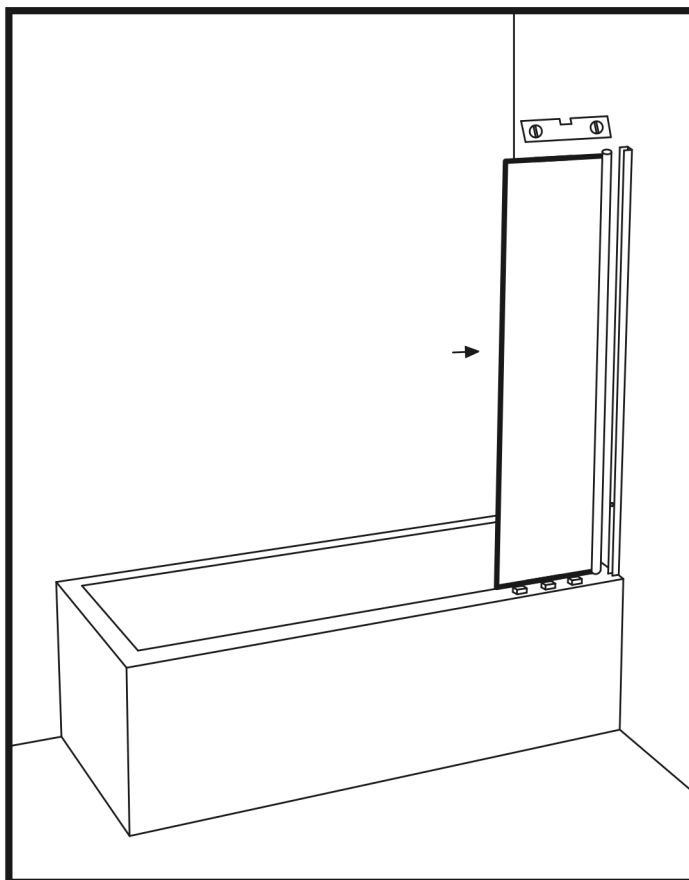

Figure 4
8. Place wooden blocks (max. thickness 10 mm) on the edge of the bathtub, where you can support the glass in the package, with a mono-hinge already installed by the manufacturer. (Fig 4)